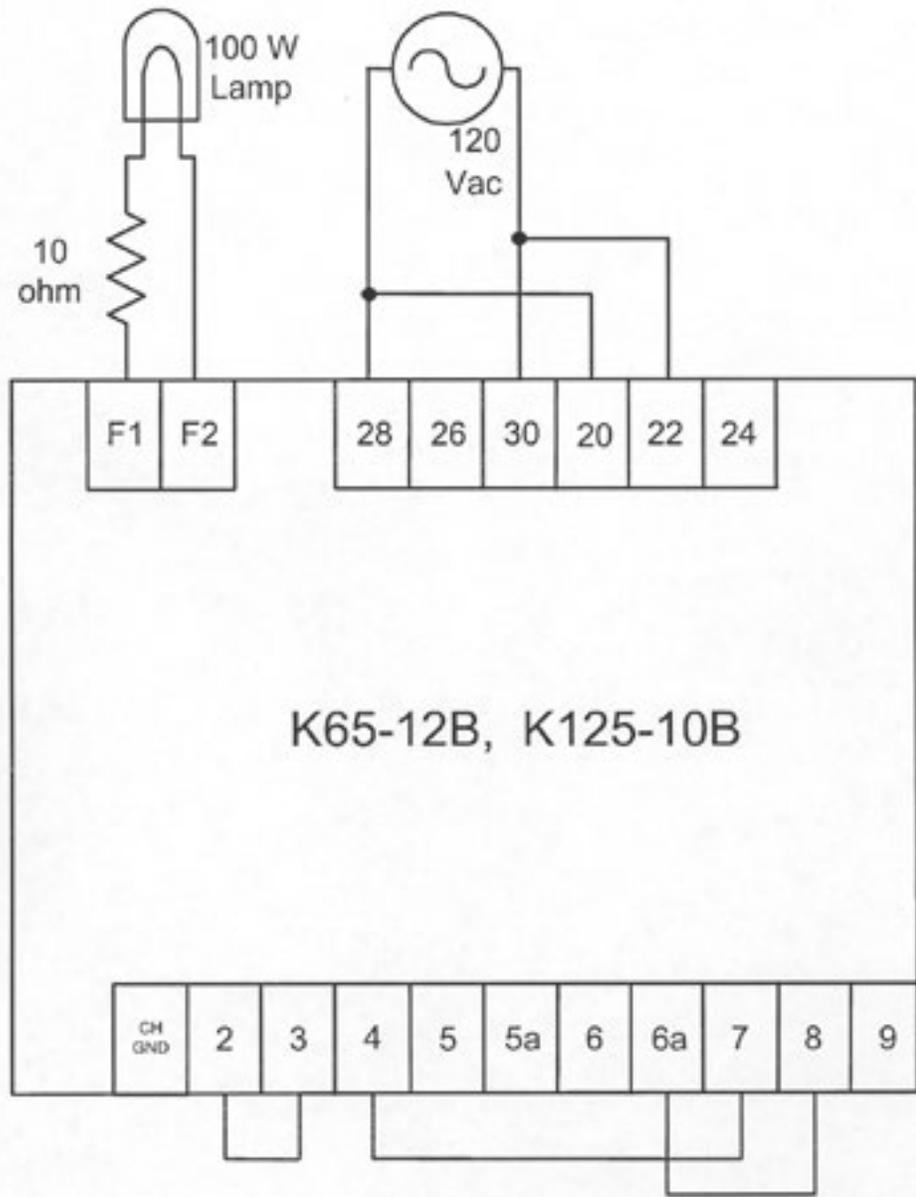

Figure 7: Operational test setup
- a. Connect the voltage regulator as shown by Figure 7, and apply 120 Vac.